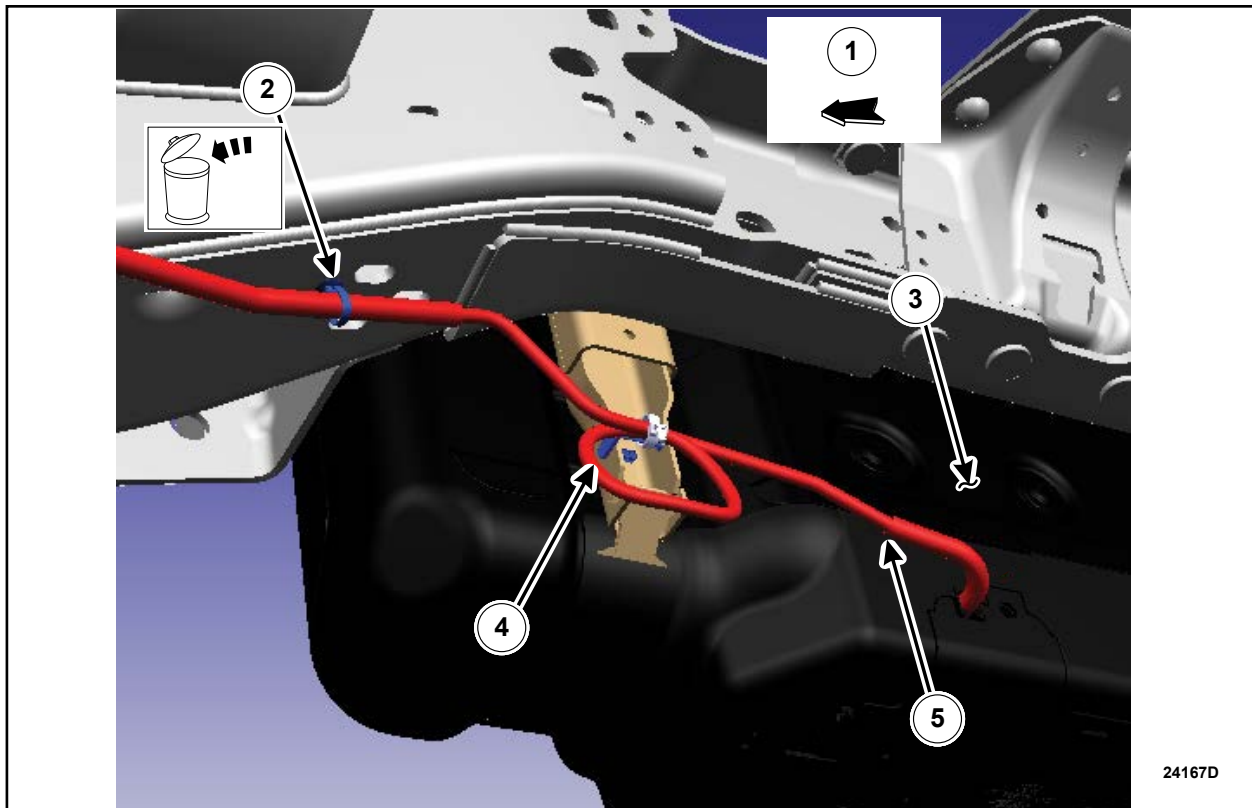

FIGURE 17
1. Detach the single DEF pressure line retainer from the RH lower frame as shown in Figure 17. Then, completely remove and discard the retainer from the DEF pressure line.
3. Using a drill and an 8mm (0.31 in) bit, drill a *new* hole location, for the *new* routing clip, forward of the lower frame rail bracket. Using a small brush and Motorcraft® High Temperature Anti-Corrosion Coating (PM-13-A), apply the coating in and around the hole that was just drilled, to cover any bare metal present from the drilling of the hole. Then, install the supplied push pin zip tie into the new hole location and position the DEF pressure line and secure in place with the zip tie as shown in Figure 17.